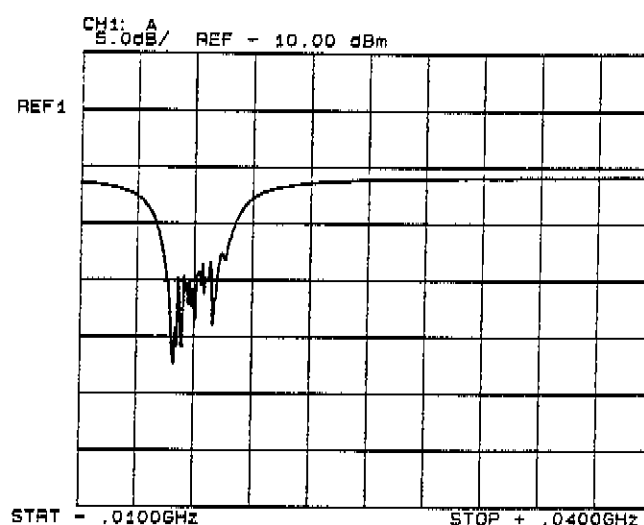

Figure 8. Properly Adjusted Trace
8. Use the **FREQ CAL** potentiometer to center the "ZERO FREQUENCY" point over the second graticule line from the left. Refer to Figure 8.